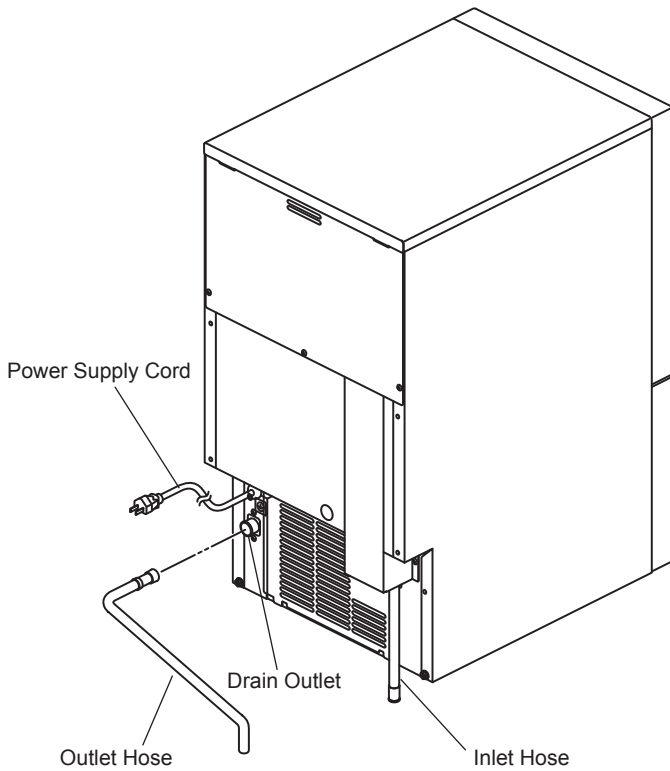

Fig. 3
2) Hand tighten grey flexible outlet hose (accessory) onto the fitting on the rear of the icemaker as indicated (Fig. 3), ensuring rubber sealing washer is correctly positioned to obtain a leak free joint. The pipe can be cut to length as necessary to suit position of main drain. To prevent water leaks, secure the outlet hose to the drain outlet by using a hose band.